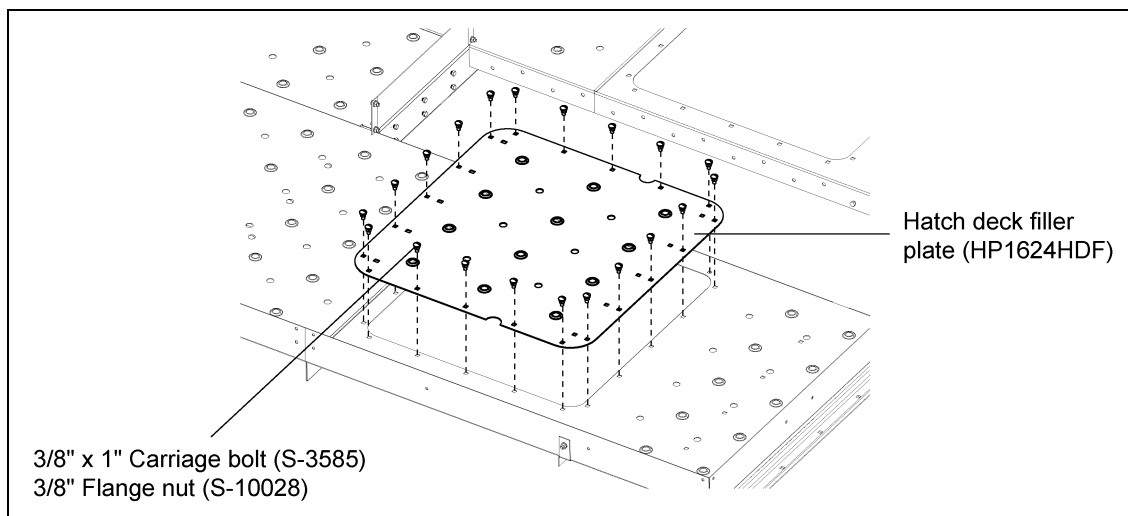

Figure 7M Deck Plate
1. Using 3/8" x 1" carriage bolts (S-3585) and 3/8" flange nuts (S-10028), install the hatch filler plate (HP1624HDF) over the un-used opening. (See Figure 7M.)